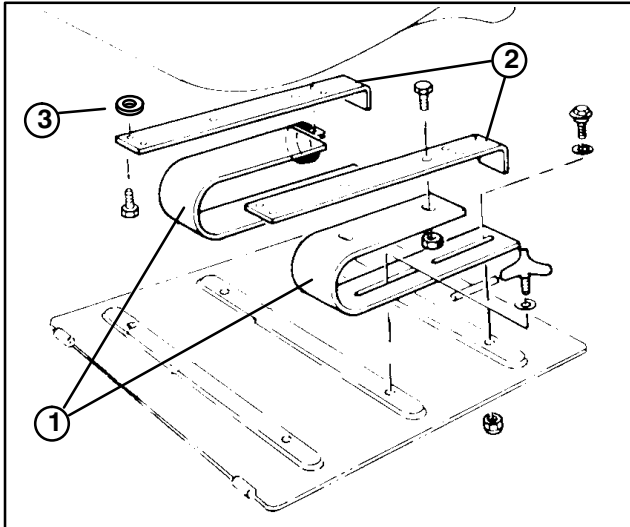

Figure 2
1. Attach "U" springs to seat mounting brackets using bolts and locknuts as shown in figure 2.
2. Secure seat mount assemblies to bottom of seat with (4) flange head capscrews and (4) spacers. (Fig. 2). Spacers to be positioned between seat and seat mount.
5. Mount seat and spring assembly to rear holes in seat mounting plate with two shoulder bolts, small I.D. flat washers and locknuts (Fig. 2 & 5).
3. Shoulder bolt with washer and locknut (2)
4. Adjustment handle (2)
6. Secure front slot of seat springs to traction unit front mounting holes with adjustment handles and flatwashers (Fig. 2 & 5).